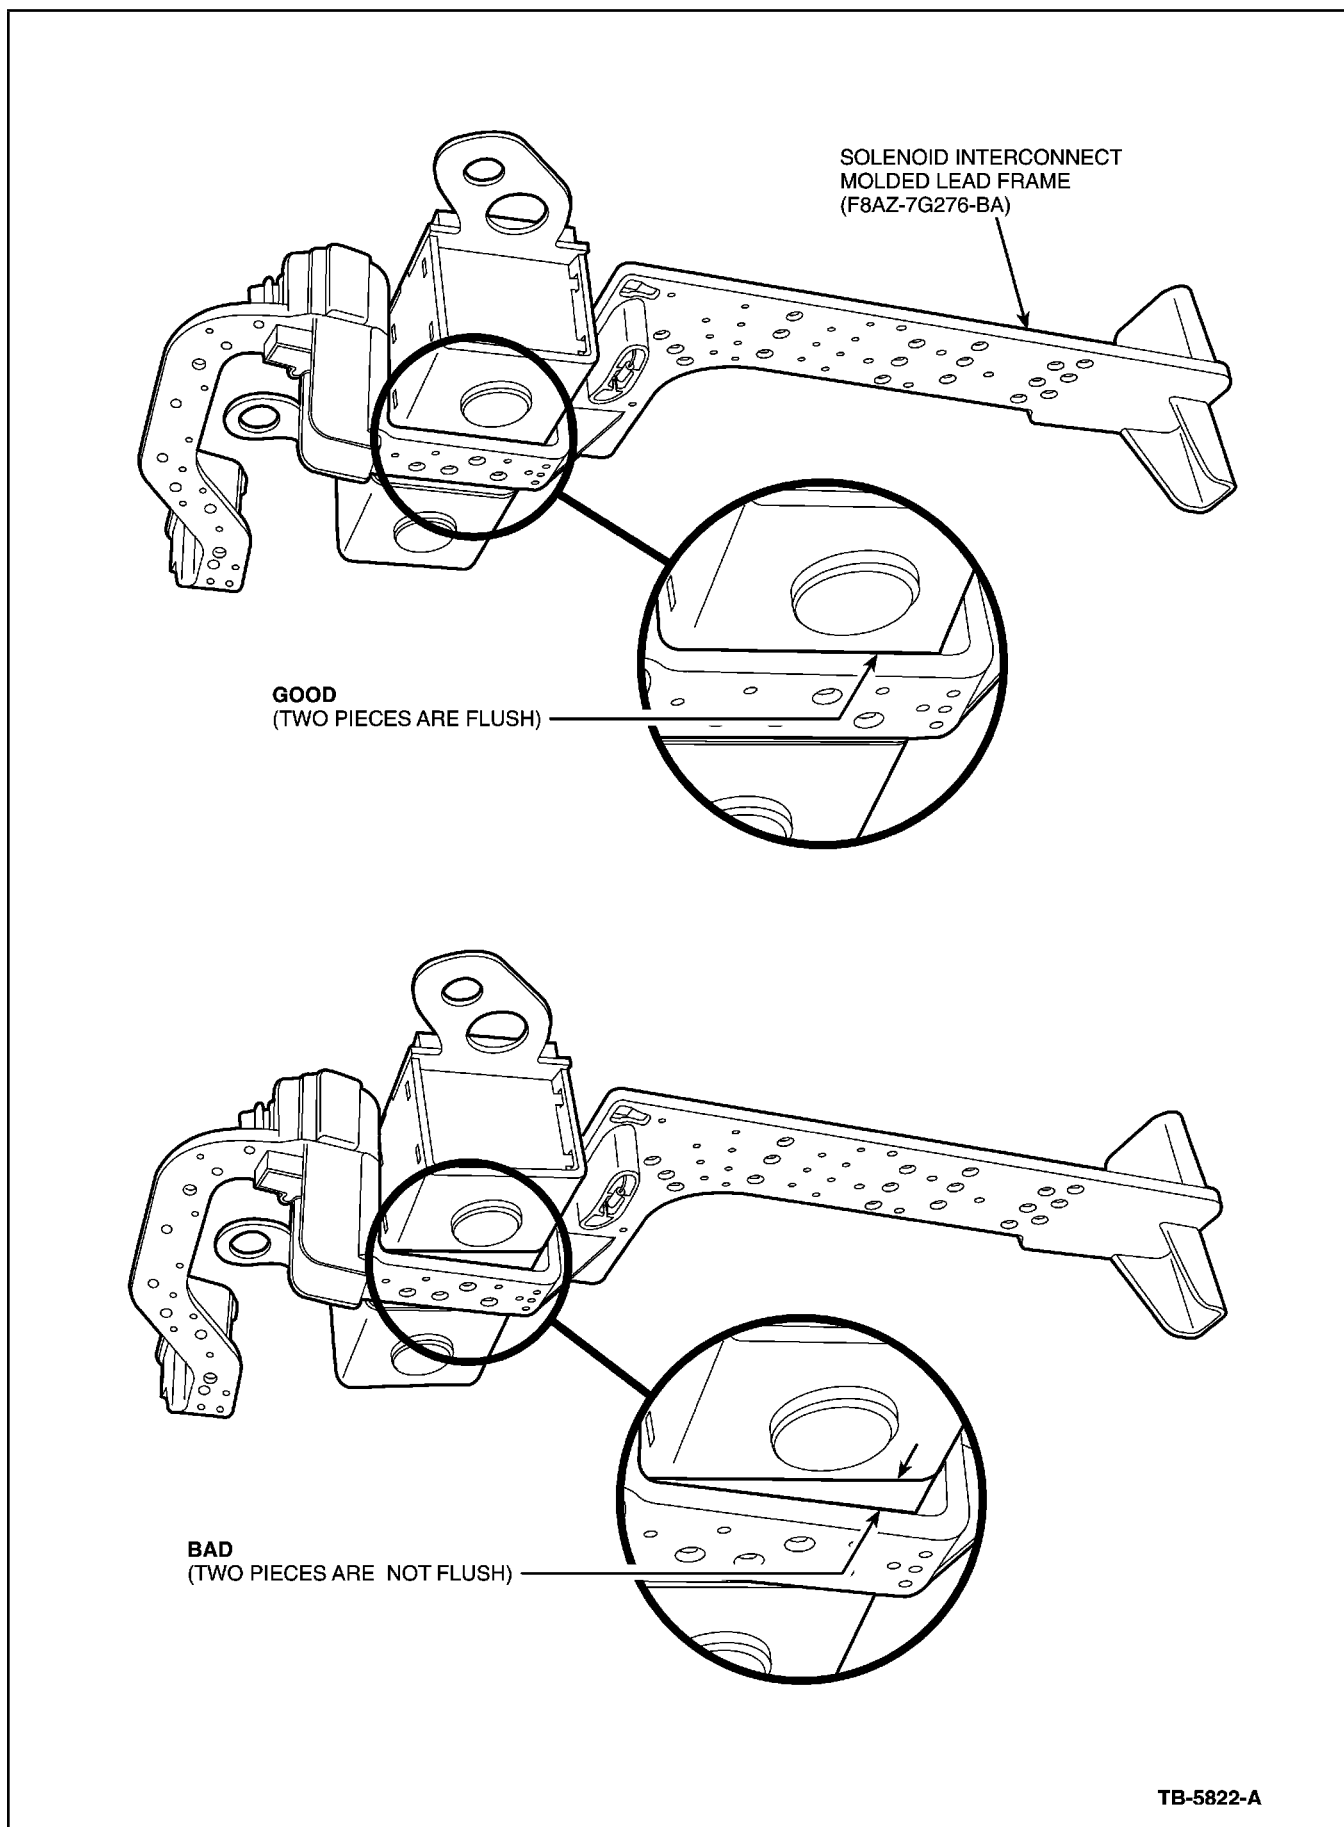

Figure 1 - Article 99-19-7
3. Verify that the solenoid interconnect molded lead frame is fully seated on all the solenoid connectors (Figure 1). If the solenoid interconnect molded lead frame is fully seated, then gently remove the solenoid interconnect molded lead frame, valve body, and bulkhead interconnect (-7G276-) per the appropriate model Workshop Manual, Section 307-01.